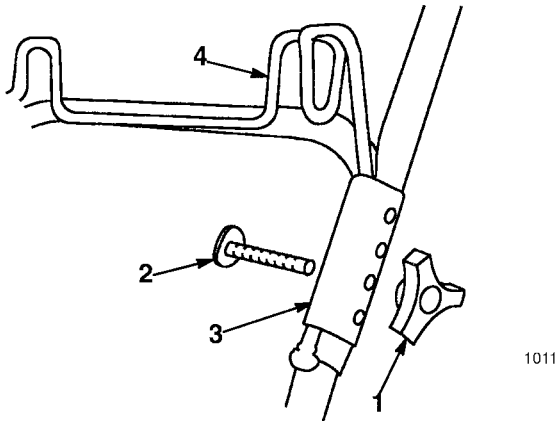

Figure 44
- Remove knob and bolt securing left side upper and lower handle sections (Fig. 44).